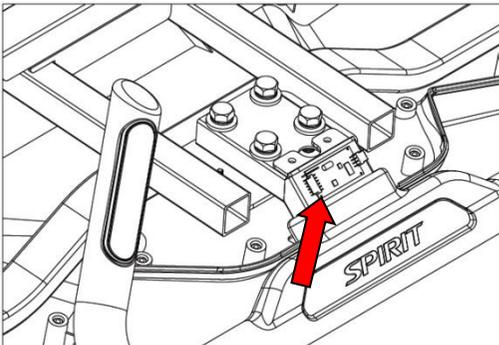

Figure 4.9.2
4.9.3 As shown in Figure 4.9.2, remove the 12P control cable connector and remove the core module wire to remove the new product.